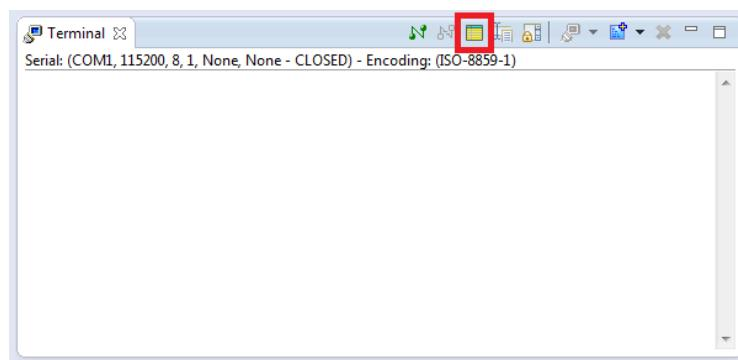

Figure 13-8. ARM DS-5 Serial Terminal
67. Although we can continue to use the “minicom” program as we previously did in Figure 13-5, we will use the built-in serial terminal available in *ARM DS-5* to have all development windows in one area. Go to “Window > Show View > Other... > Terminal > Terminal” to open *ARM DS-5*’s the built-in serial terminal. You should see the terminal shown in Figure 13-8.